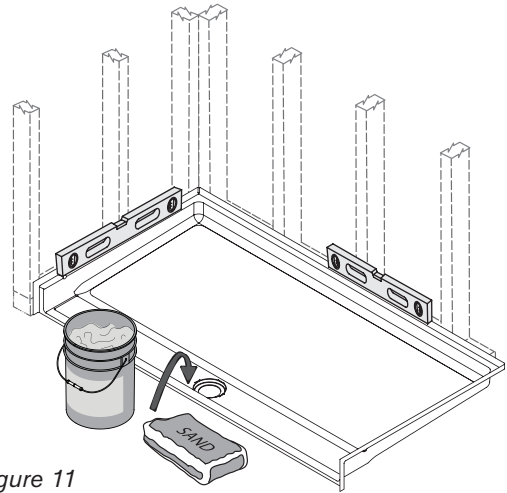

Figure 11
- 15 Place a weight (a bucket of water or sand) over the drain area to ensure the epoxy will be effective. (Figure 11)